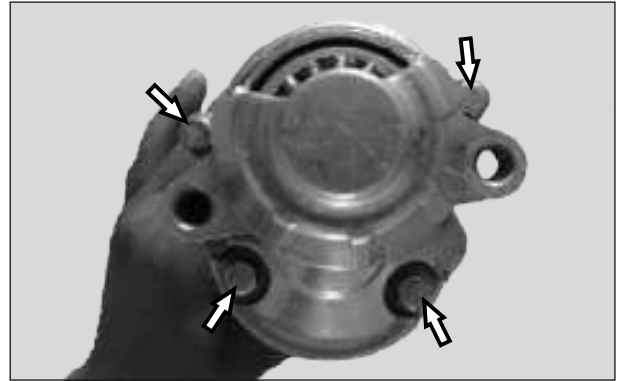

Fig. 6.38
- Loosen and remove 4nos. Hexagonal screw M5X16 along with 4 nos. punched washer and 4 nos. spring washer from the fixing bracket assembly. Remove the gasket between fixing bracket assembly and inter bracket. (Fig. 6.38)